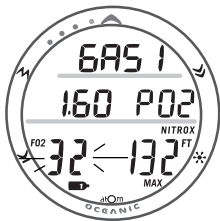

Fig. 43 - SET FO2 GAS1
- Pressing and holding the S button will resume the scroll from 32 (Fig. 43) through 50%, then stop at AIR (or 21%).